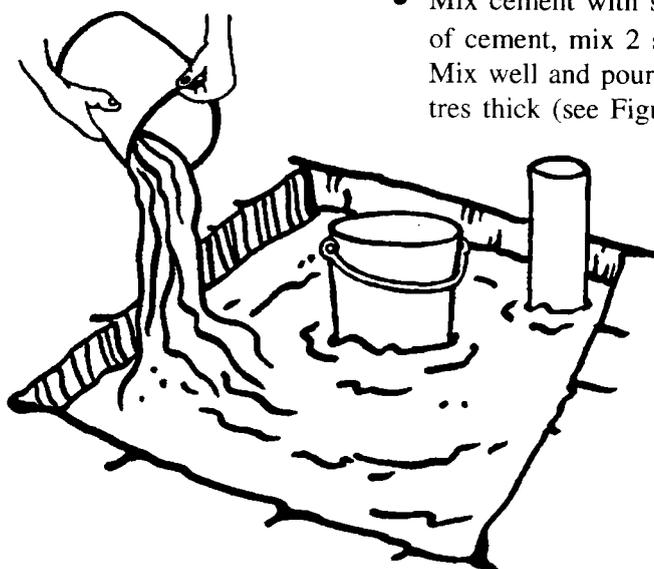

Figure 9. Laying the slab
- Mix cement with sand, gravel and water (with each shovel of cement, mix 2 shovels of sand and 4 shovels of gravel). Mix well and pour it into the pit until it is about 50 millimetres thick (see Figure 9).